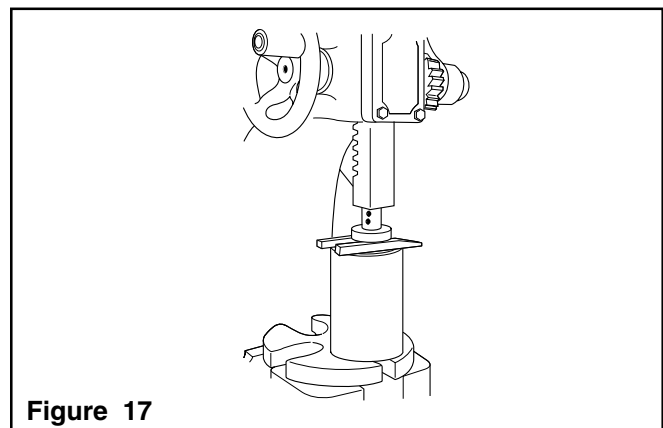

Figure 17
1. To remove the Front Main Bearing from the Crankshaft, position a pipe support fixture on the arbor press; then, place two metal bars parallel to each other, one on each side of the fixture (See Figure 17).
2. Place the Crankshaft Assembly in the fixture, drive end up, with the metal bars between the Bearing and fixture to support the Outer Bearing (See Figure 17).
3. Using the arbor press, press the Crankshaft through the Bearing (See Figure 17).